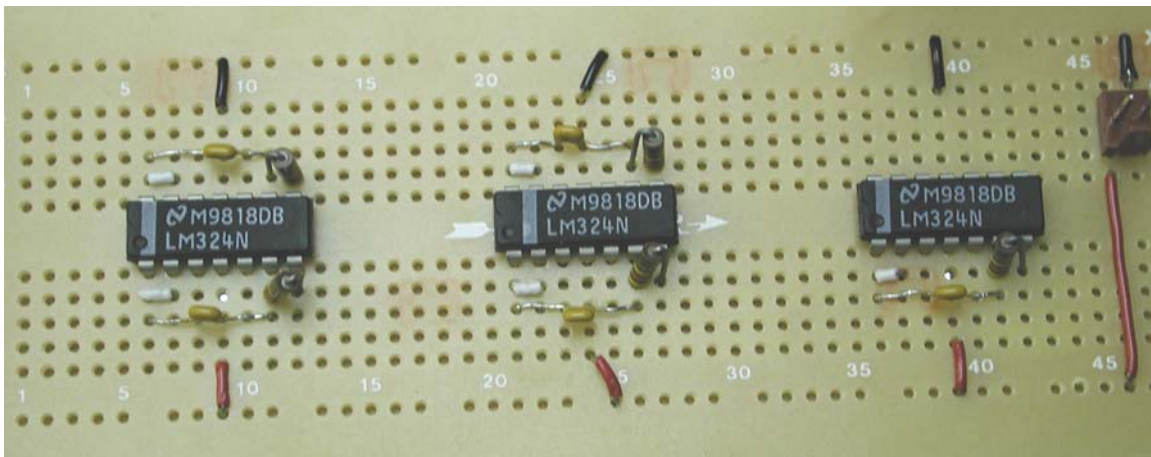

Figure 4: Capacitors and resistors
- Figure 4 shows the 10 nF capacitors installed from pin 1 to 6 and pin 14 to 9.